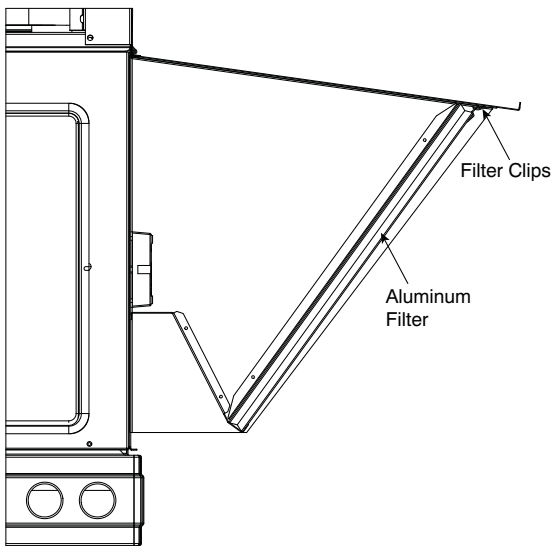

Fig. 7 - Filter Installation (See Through View)
11. Open the filter clips on the inside of the hood top. Insert the aluminum filter into the hood and close the clips to hold in place. See Fig. 7.